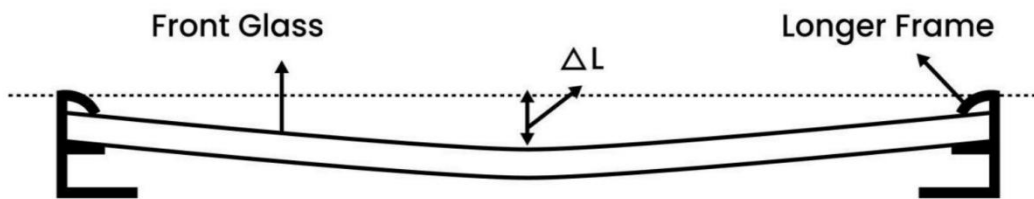

Figure 6 Schematic diagram of module deflection (ΔL : module deflection)
- Due to gravity, the modules will sink to varying degrees, The sinking ΔL : Module deflection, located in the center of the module, as shown in Figure 6. Please note that applying external heavy pressure to the surface of the module may cause the glass surface to sink more when storing, transporting, and installing modules. The installation method of clamps only on the short side can easily cause slight bending and sagging of the aluminum frame due to the large span of the module. For customers who are concerned about this phenomenon, Ulica Solar does not recommend this installation method. Adding a rail to support the middle part of the long side of the module can effectively avoid this phenomenon.